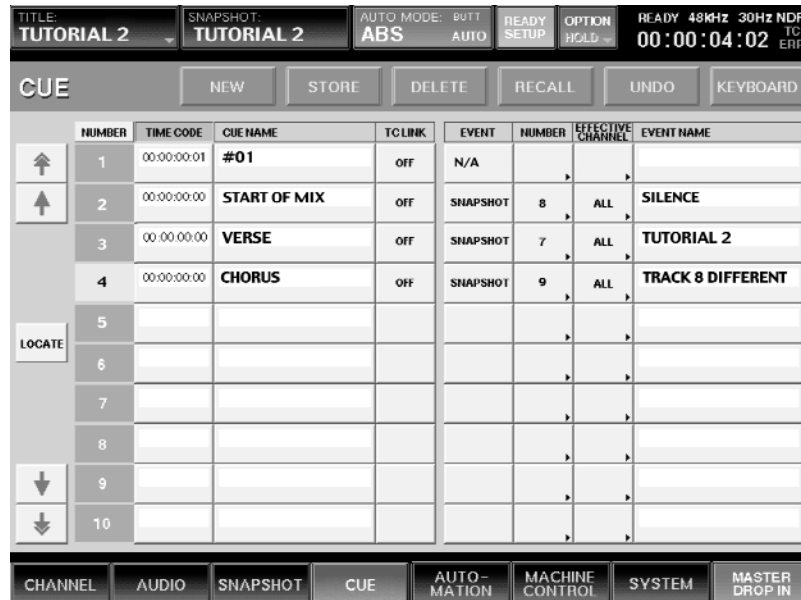

Figure 4
- 7 Return to the CUE window and create a new, fourth Cue (CUE 4), naming it "CHORUS". Assign it the "track 8 different" snapshot and once again set TC LINK to OFF. (See Figure 4)